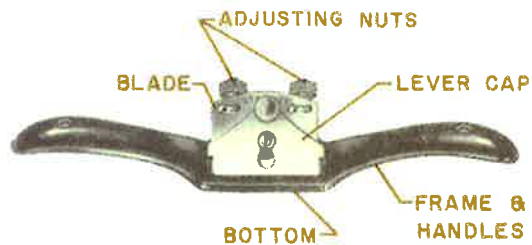

Fig. 12-1. Adjustable spokeshave.
The spokeshave (Fig. 12-1) is a tool for cutting and shaping. It was used many years ago for making spokes for wheels, hence its
5. Adjust for the proper cutting depth with the adjusting nuts (Fig. 12-1).